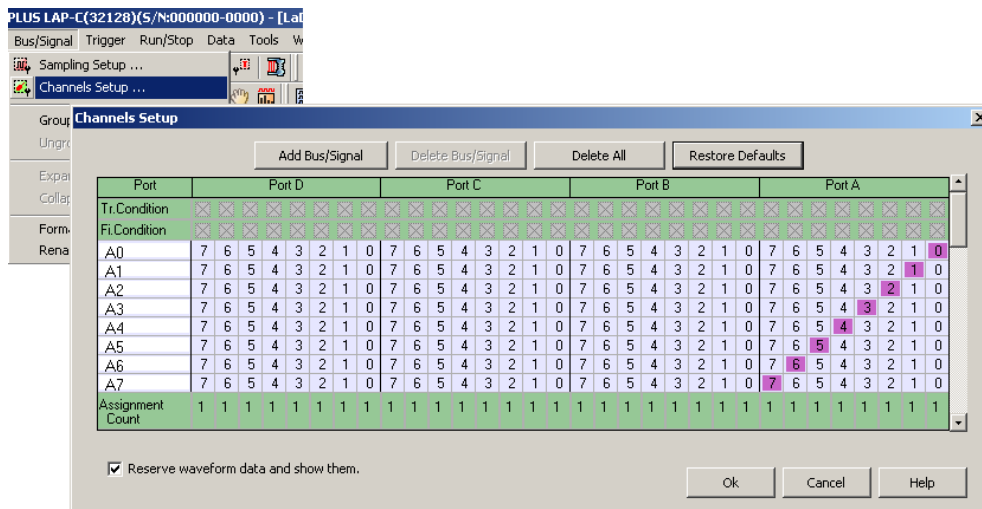

Fig 4-27 – Channels Setup
The dialog box shown in Fig 4-27 will appear.
3. Restore Defaults: Click **Restore Defaults** to restore the dialog box of Channels Setup as shown in Fig 4-27.